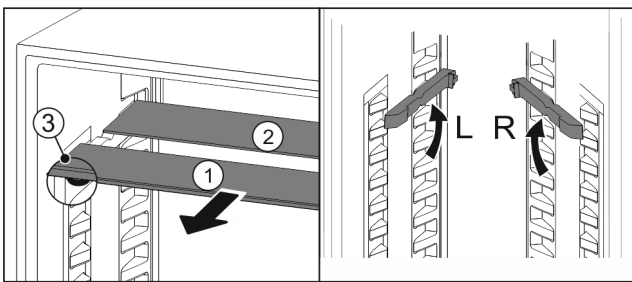

Fig. 76
- ▶ Pull the glass panels out Fig. 76 (1) from the front, one at a time.
- ▷ The glass panel Fig. 76 (1) and trim strip are at the front.
- ▷ The stops Fig. 76 (3) point down.